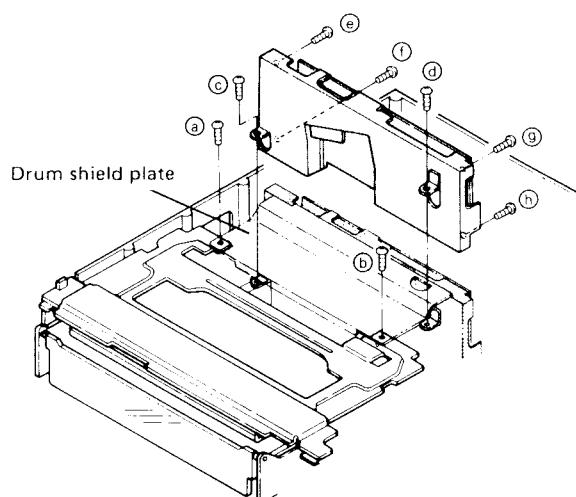

Fig. 2-10
- 2) Remove the two screws (Ⓒ and Ⓓ) retaining the PCB HEAD AMP and remove the PCB HEAD AMP by lifting in an upward direction as shown in Fig. 2-10.